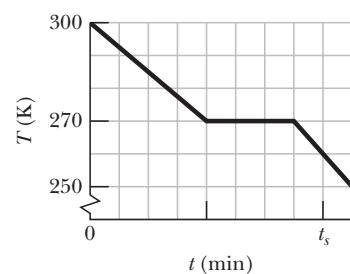

Figure 18-33 Problem 30.
**•30** A 0.400 kg sample is placed in a cooling apparatus that removes energy as heat at a constant rate. Figure 18-33 gives the temperature  $T$  of the sample versus time  $t$ ; the horizontal scale is set by  $t_s = 80.0$  min. The sample freezes during the energy removal. The specific heat of the sample in its initial liquid phase is 3000 J/kg·K. What are (a) the sample’s heat of fusion and (b) its specific heat in the frozen phase?